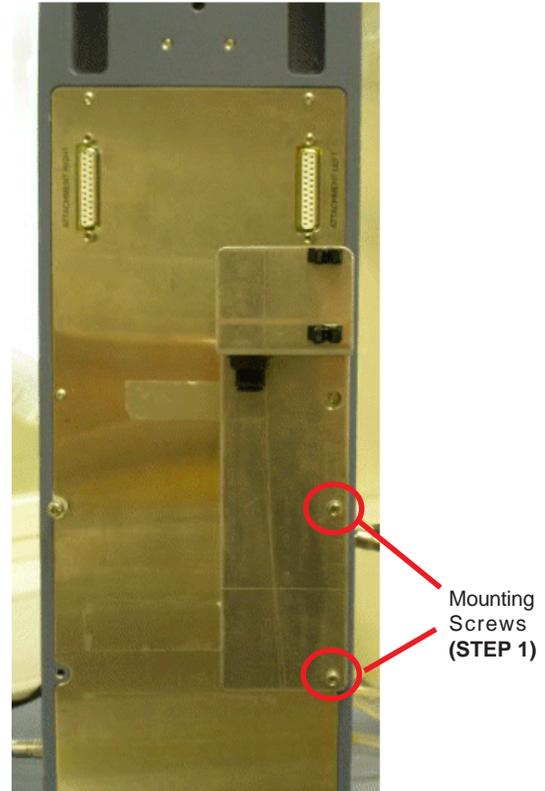

Figure 7.5
1. Use the two screws provided to mount the vortex air cooler bracket to the rear of the AR 2000 casting as shown in Figure 7.5 to the right.